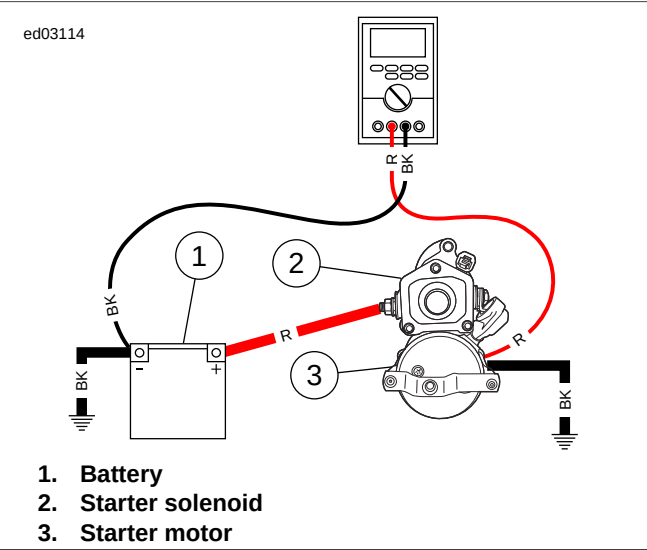

Figure 1-43. Starter Ground Circuit
4. See Figure 1-43. Finally move the black meter lead to the negative battery post and the red meter lead to the starter case. Crank the starter.